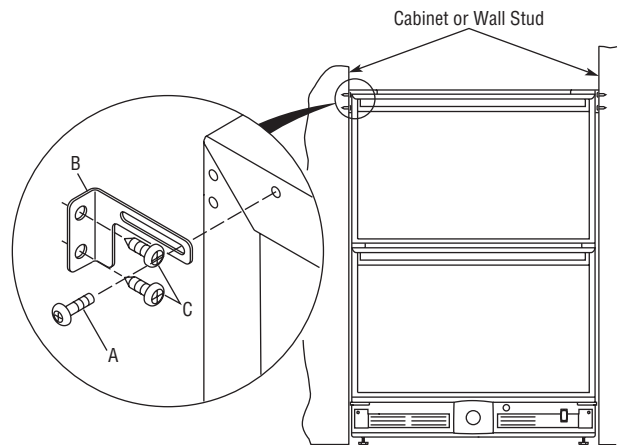

Figure 29
1. Open the upper drawer to expose the six screws (A) installed at the top two corners (three at each corner). Remove the appropriate screws for horizontal or vertical mounting (see **Figure 29**). Do not discard.